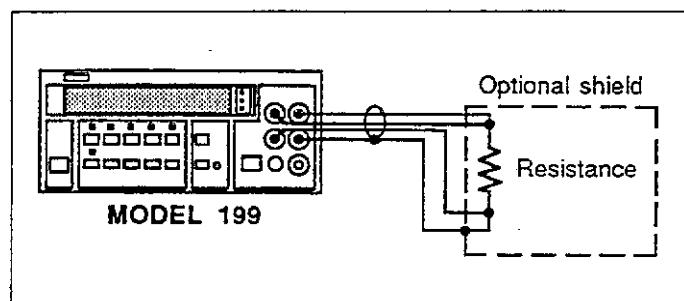
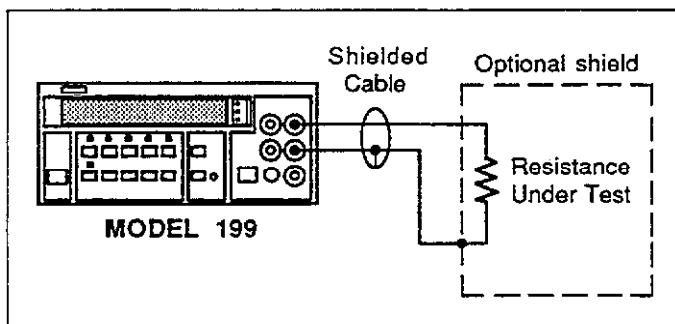

Figure 2-5. Four-Terminal Resistance Measurements
Figure 2-4. Two-Terminal Resistance Measurements
4. For 2-terminal measurements connect the resistance to the instrument as shown in Figure 2-4. For 4-terminal measurements connect the resistance to the instrument as shown in Figure 2-5.